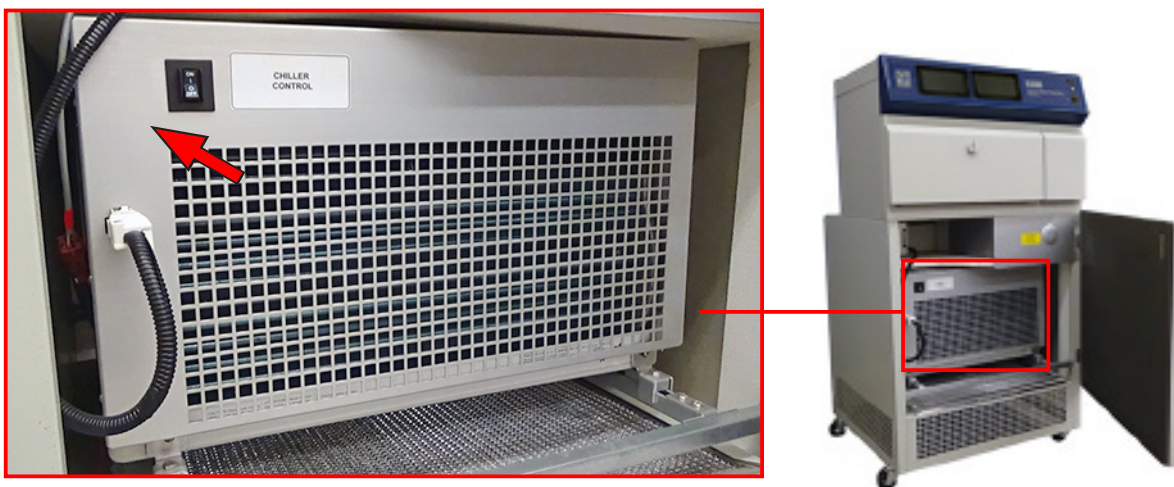

Figure 12.3c: Chiller circuit breaker switch location.
- A circuit breaker is located behind the chiller front door (Figure 12.3c).